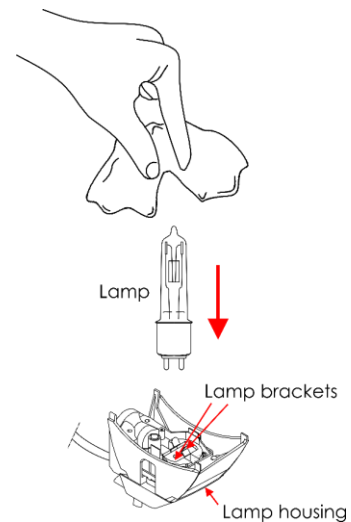

Fig. 05
- 04) Insert the lamp and fit it firmly in the lamp brackets (Fig. 05).